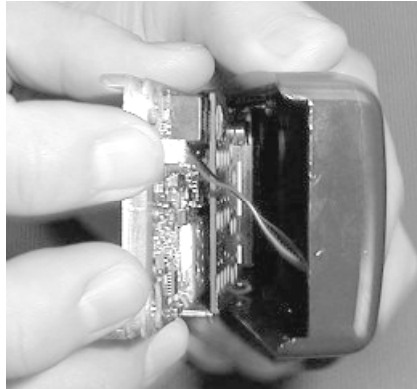

Figure 2-3
7. Lift rear chassis away from the front cover (see “Figure 2-3”). Be careful not to damage the speaker wire underneath.